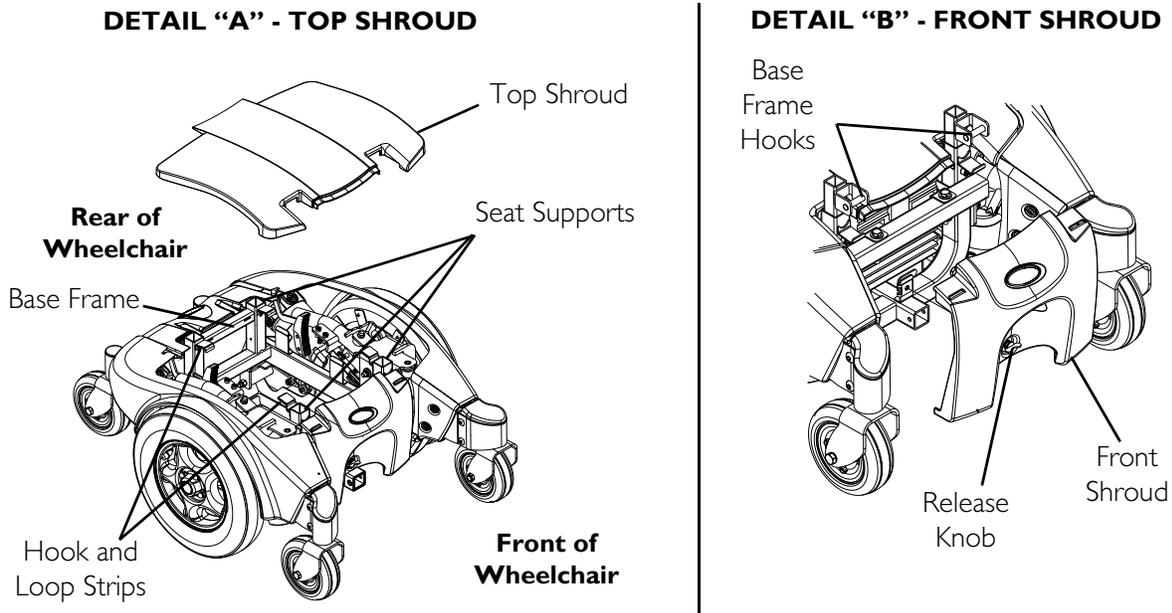

FIGURE 10.1 Removing/Installing the Shrouds
NOTE: For this procedure, refer to FIGURE 10.1.
- A. Top Shroud - Lift UP on rear edge of top shroud to release the four hook and loop strips that secure the top shroud to the base frame as shown in Detail "A" of FIGURE 10.1.
- B. Front Shroud - Turn release knob ¼-turn to the unlocked position and lift UP to remove front shroud from base frame hooks as shown in Detail "B" in FIGURE 10.1.
- A. Top Shroud - Position top shroud on to the base frame and gently press down on top shroud to secure the four hook and loop strips that secure the top shroud to the base frame as shown in Detail "A" of FIGURE 10.1.
- B. Front Shroud - Position front shroud onto the two base frame hooks. Turn release knob $\frac{1}{4}$ -turn to the locked position as shown in Detail "B" of FIGURE 10.1.